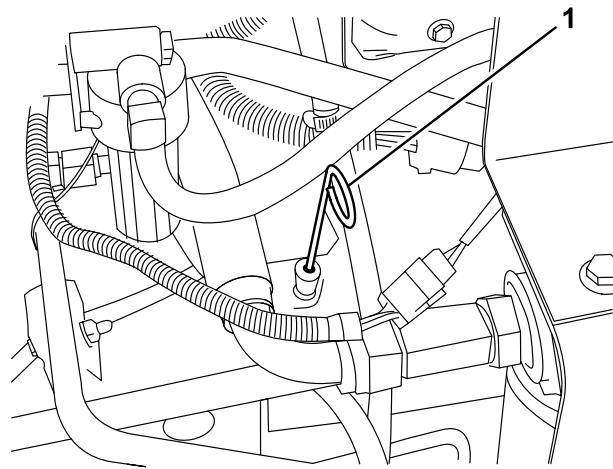

Figure 29
2. Remove dipstick (Figure 29), wipe clean and reinstall dipstick. Pull it out again and check oil level on dipstick. Oil level should be up to FULL mark on dipstick.